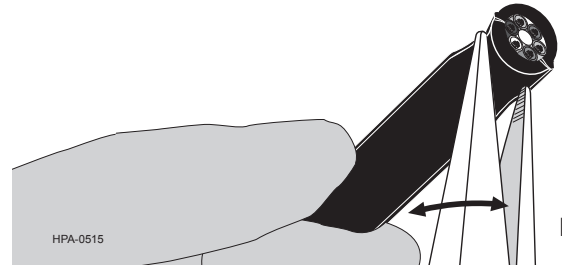

Figure 9
Step 2: Continuing to apply firm pressure on the cable sheath, twist the pliers to apply a tearing-force on the sheath until it splits at the ridges (Figure 9).